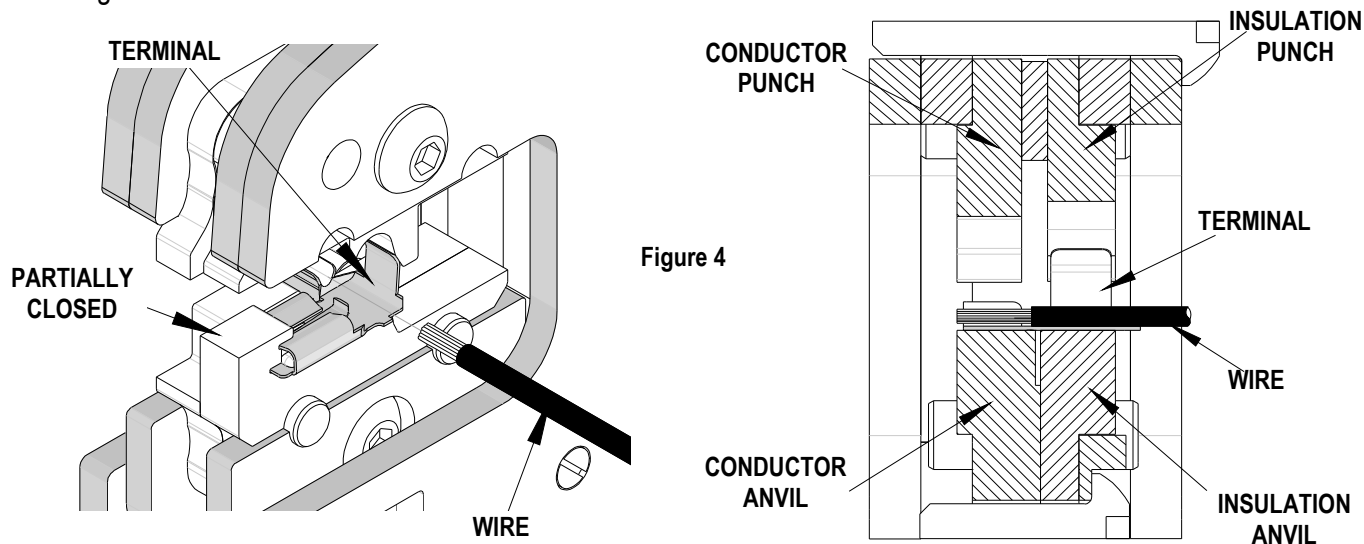

Figure 4
8. Insert the properly stripped wire into the insulation crimp nest. See Figure 4.